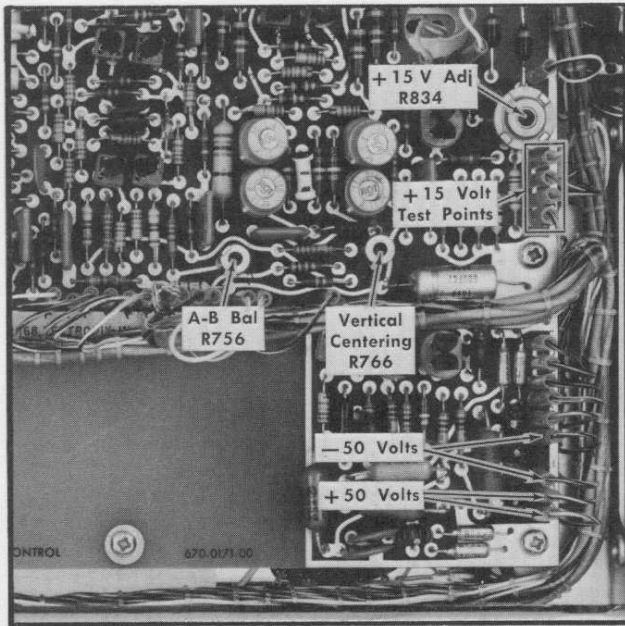

Fig. 6-4. Power supply test points and adjustment locations on right rear of Type 352.
1. Check and Adjust Power Supplies ❶
a. Refer to Fig. 6-4 to locate the power supply test points and the +15-Volt adjustment. Location is on the instrument right rear side.